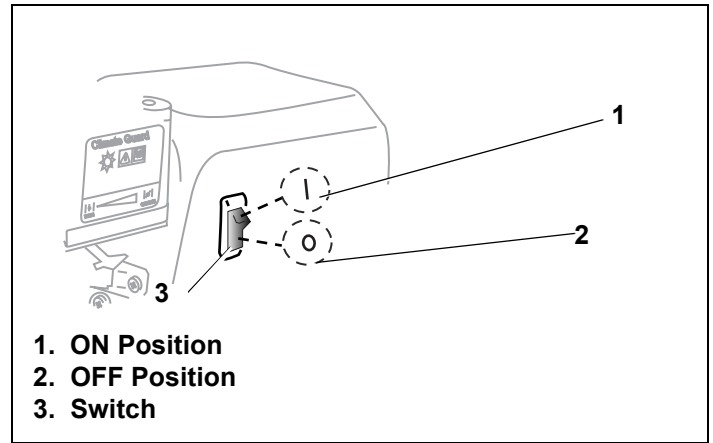

Figure 13. Engine Stop Switch
6. Engine stop switches—Check that the operator knows where all engine stop switches are located. Check that all engine stop switches immediately stop the engine. For stop switch locations, see Figure 13 on page 8.
Power Sport Engines are equipped with an Engine Stop Switch. This rocker switch is used to shut off the ignition that supplies the spark plug with power. Pressing the switch to the “OFF” position will turn the engine off when it is running. This switch must be in the “ON” position or the engine will not start. See Figure 13.